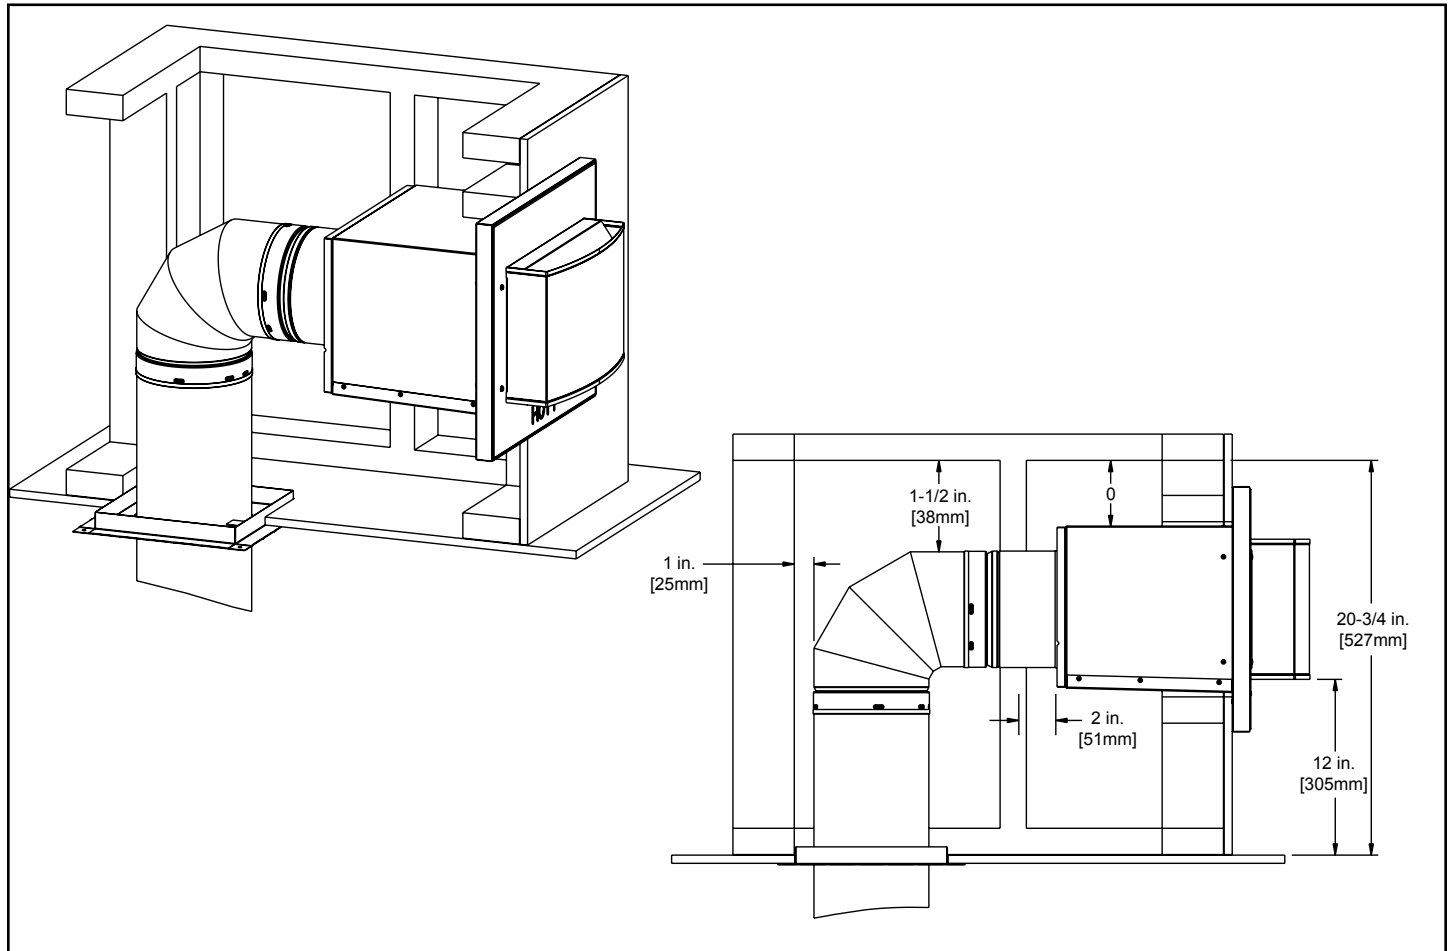

Figure 3.4
1. If the PVLP-SLP is going to terminate on a flat roof, an enclosure similar to the one shown in Figure 3.4 will need to be constructed.